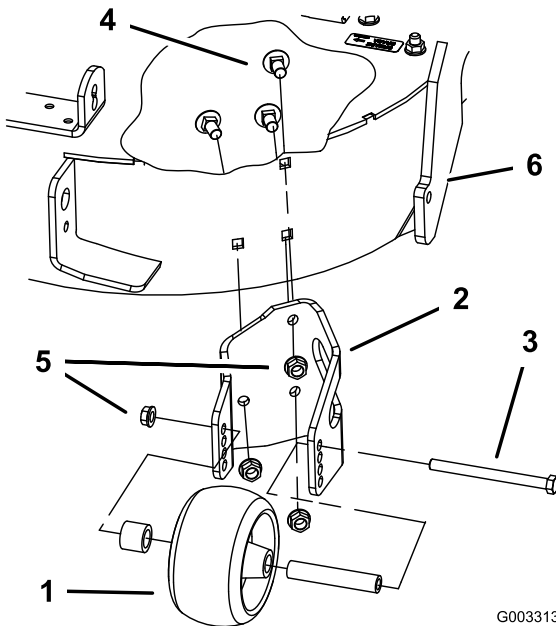

Figure 4
2. Remove the anti-scalp roller from the bracket by loosening and removing the flange nut (3/8 inch) and axle bolt (3/8 x 4-1/2 inch) as shown in Figure 4. Save all hardware for later use.
3. Remove the three carriage bolts (3/8 x 3/4 inch) and flange nuts (3/8 inch) securing the bracket to the mower (Figure 4).